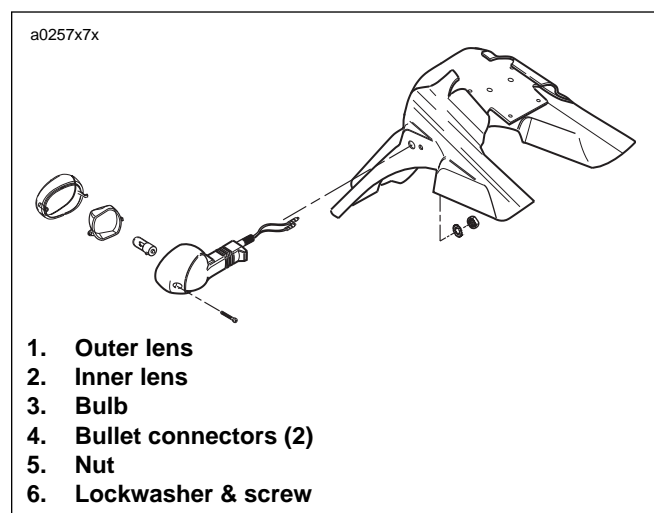

Figure 7-68. Rear Turn Signals
2. See Figure 7-68. Disconnect two bullet connectors on turn signal wires.
1. See Figure 7-68. Insert bullet connectors through rear hole in tail lamp bracket. Attach turn signal using lock-washer and nut. Tighten nut to 25-28 **in-lbs** (2.8-3.2 Nm).